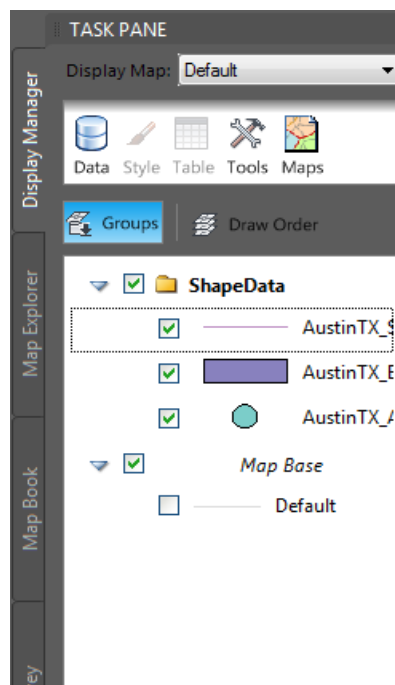

Figure 2-26 The *Display Manager* tab showing the added SHP file data
14. The **Display Manager** tab of the **TASK PANE** displays the name of the shape data added to the drawing, as shown in Figure 2-26.